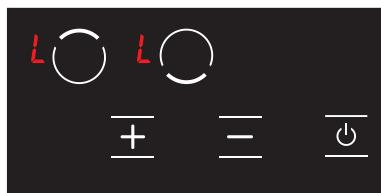

Figure 16
3. The child lock is activated at this time and the L icon is displayed on all hobs to indicate this condition. (see Fig. 16) The L and H icons are displayed alternatively if any hob is hot.